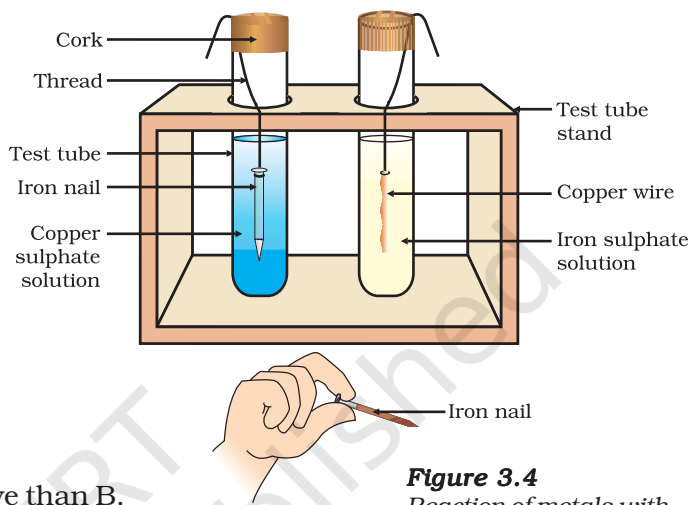

Figure 3.4
- Put the copper wire in a solution of iron sulphate and the iron nail in a solution of copper sulphate taken in test tubes (Fig. 3.4).